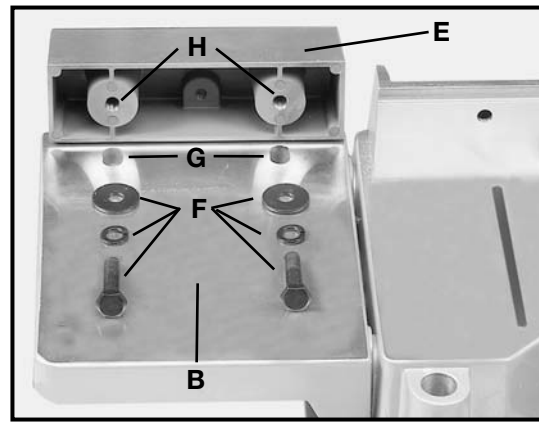

Fig. 7D
4. Attach the fence slide support (E) Fig. 7D, to the extension table (B) by using the two 1 1/4" long hex head screws, 5/16" lockwashers and 5/16" flat washers (F). Bring screws up through the two holes (G) in table extension and thread them into the two threaded holes (H) on bottom of fence slide support.